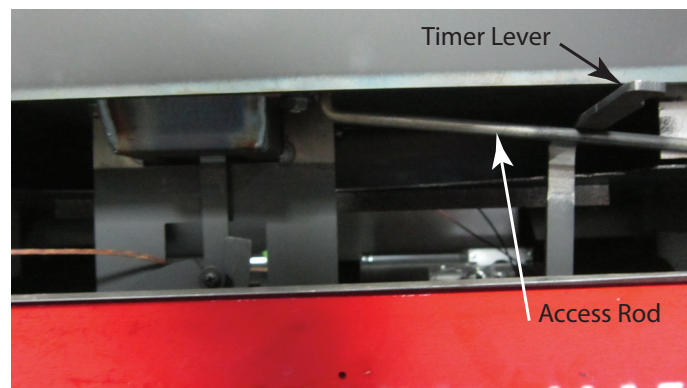

Figure 4.18
- Move the lever on the timer so that it rests on the ACC rod. See Figure 4.18.